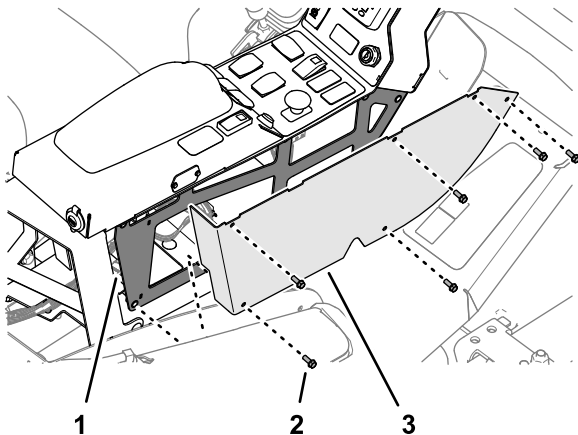

Figure 21
4. At the outboard side of the control console, align the holes in the right control-console cover with the holes in the console (Figure 21).
5. Assemble the cover to the control console (Figure 21) with the 5 flange-head capscrews that you removed in Preparing the Control Console (page 3).